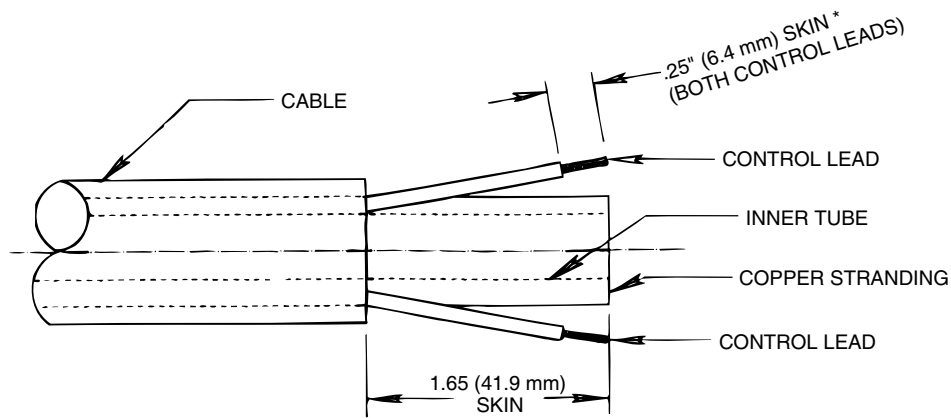

Figure 2
- Cut off the damaged section of cable and strip off the outer jacket as shown in Figure 2. Be careful not to cut the insulation on the control wires while stripping jacket. Strip the red and white control leads 1/4 inch (6.4 mm) from the end and crimp a new S19492-2 terminal to each lead.
- e. Cut off the damaged section of cable and strip off the outer jacket as shown in Figure 2. Be careful not to cut the insulation on the control wires while stripping jacket. Strip the red and white control leads 1/4 inch (6.4 mm) from the end and crimp a new S19492-1 terminal to each lead.